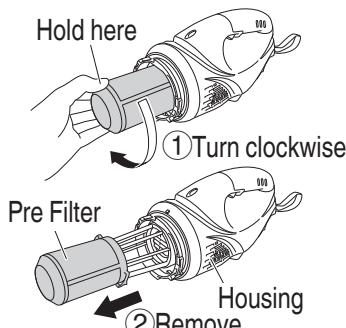

Fig. 7
(2) Remove the pre filter. (**Fig. 7**)